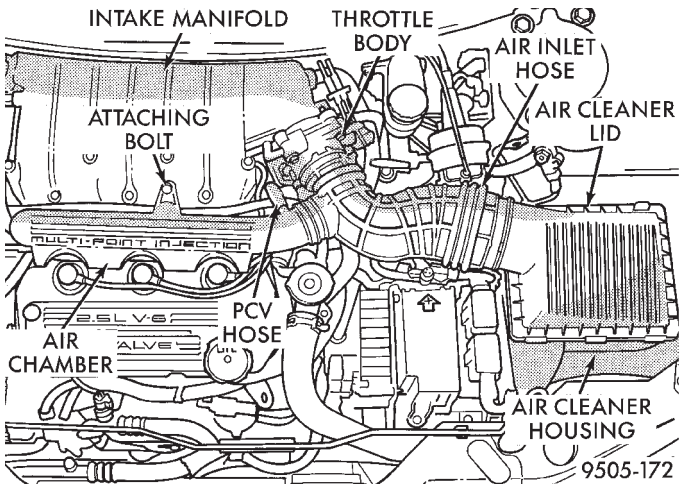
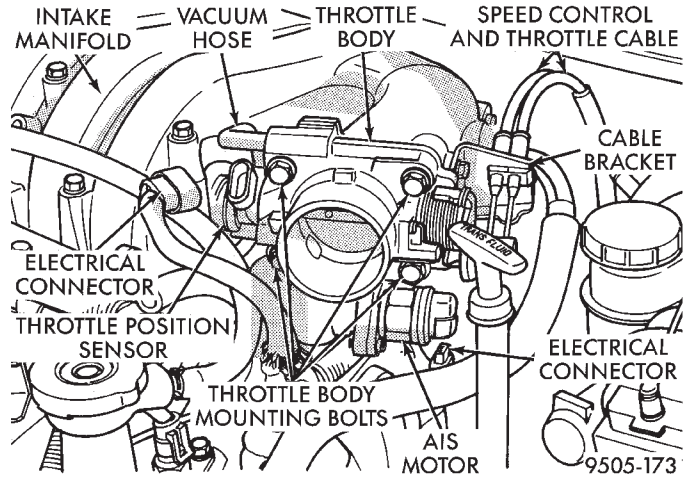

Fig. 103 Engine Air Intake System Components
Fig. 104 Throttle Body Attachment To Intake Manifold
(3) Remove the PCV hose (Fig. 103) from the air chamber located on the front of the intake manifold. Remove bolt (Fig. 103) attaching the air chamber to the intake manifold. Then unlatch lid of air cleaner from air cleaner housing and loosen clamp attaching air inlet hose to throttle body (Fig. 103). Remove the air cleaner lid, air inlet hose and air chamber (Fig. 103) as an assembly from the engine.
(4) Remove the throttle cable and if equipped the speed control cable from the throttle body (Fig. 104). Remove the vacuum hose (Fig. 104) from the throttle body. Remove the wiring harness connectors from AIS motor and the Throttle Position Sensor (Fig. 104) on the throttle body. Then, remove the 4 bolts (Fig. 104) attaching the throttle body to the intake manifold and remove it from intake manifold.
(5) Without removing cables from bracket, remove the throttle and speed control cable mounting bracket (Fig. 104) from the intake manifold.
(15) Install the throttle body and a **NEW** gasket on the intake manifold. Install the 4 throttle body attaching bolts (Fig. 104) and tighten to a torque of 22 N·m (200 in. lbs.).
(16) Install the vacuum hose (Fig. 104) on the throttle body. Install the wiring harness connectors on the AIS motor and the Throttle Position Sensor (Fig. 104) located on the throttle body.
(17) Install the mounting bracket for the throttle cable and speed control cable onto the intake manifold and securely tighten the mounting bolts.
(18) Install the throttle cable, and if equipped, the speed control cable on the cam of the throttle body assembly.
(19) Install the air cleaner lid, air inlet hose and air chamber (Fig. 103) as an assembly on the engine. Latch lid of air cleaner to air cleaner housing. Securely tighten the clamp attaching the air inlet hose to the throttle body (Fig. 103). Install and securely tighten the bolt attaching the air chamber to the intake manifold (Fig. 103).